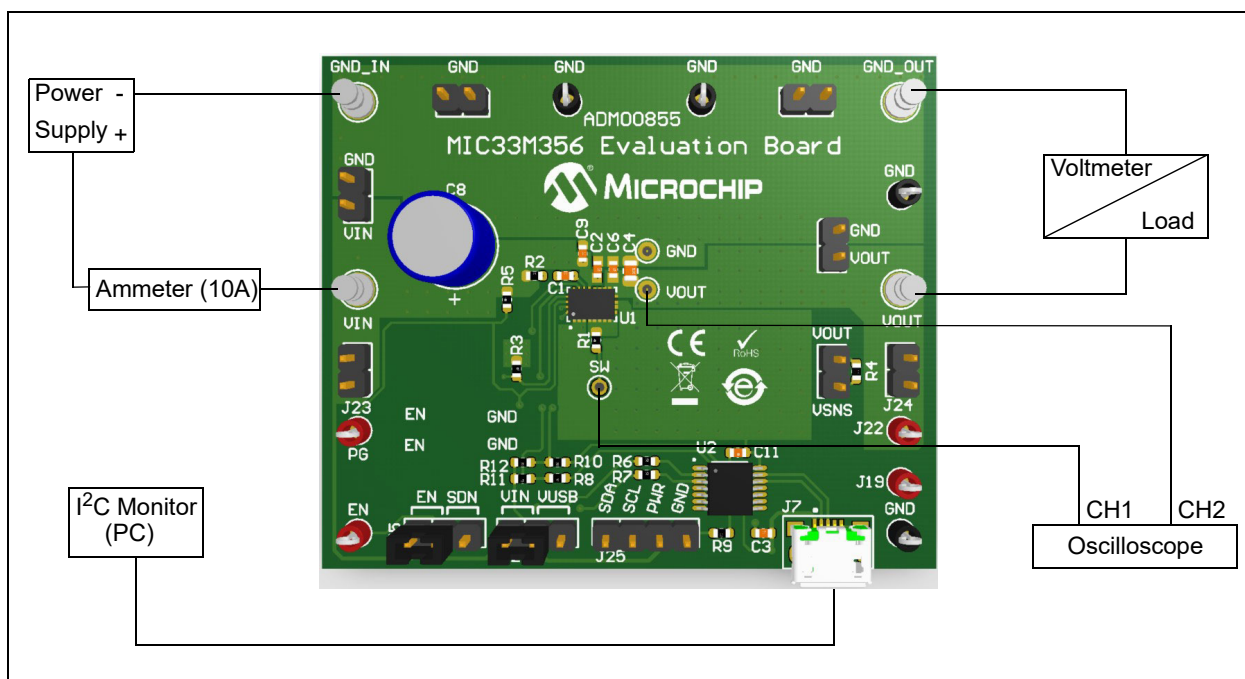

FIGURE 2-2: MIC33M356 Evaluation Board Test Setup.
1. Connect the PC, input supply, voltmeter and ammeter, and load as shown in Figure 2-2. Set the ammeter on a 10A range.
When testing the MIC33M356 device at high load currents, or when checking the overcurrent protection behavior, it may be necessary to remove the series ammeter shown in Figure 2-2 or to replace it with a very low value shunt resistor. This is because the internal resistance of many Digital Multimeters (DMMs) used for current measurements is generally too high.